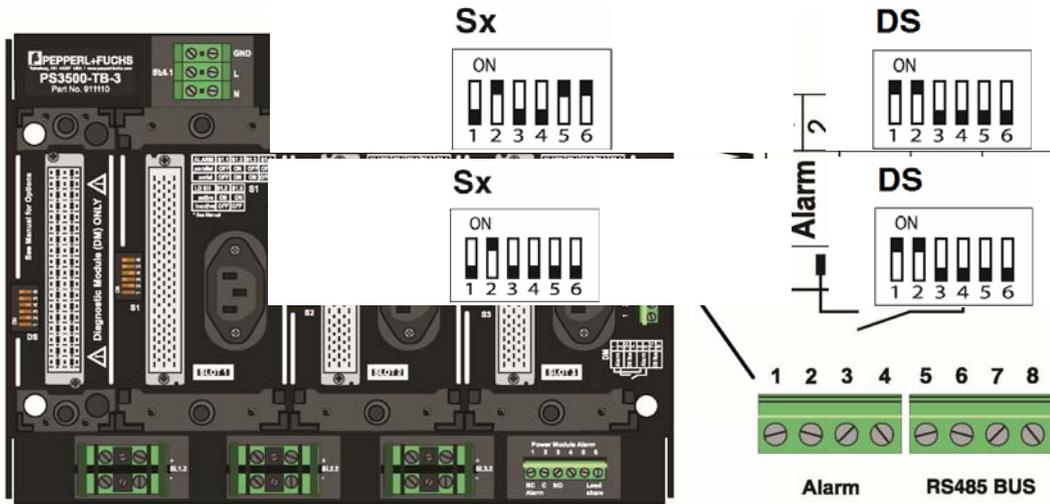

Figure 4.6 Alarm Configure
The terminals are internally connected when the alarms are configured to the center far right terminals, as shown in Figure 4.6. Terminals one (1) and five (5) are a normally closed contact for the alarm, while two (2) and six (6) are normally open contacts for the alarm.